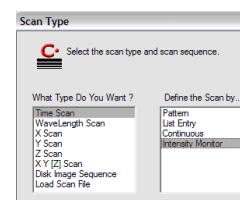

fig.3
6. Click on New Scan to Start **DIA** dialogue > choose Time Scan and Intensity Monitor > Save (**fig.3**)